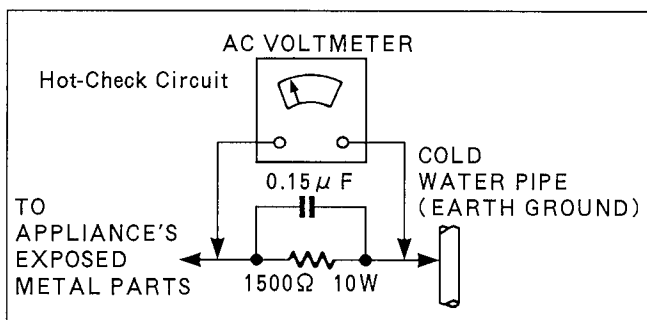

Figure 1
LEAKAGE CURRENT HOT CHECK (See Figure 1)
2. Connect a $1.5\text{K}\Omega$, 10W resistor, in parallel with $0.15\mu\text{F}$ capacitor, between each exposed metallic part on the set and a good earth ground such as a water pipe, as shown in Figure 1.